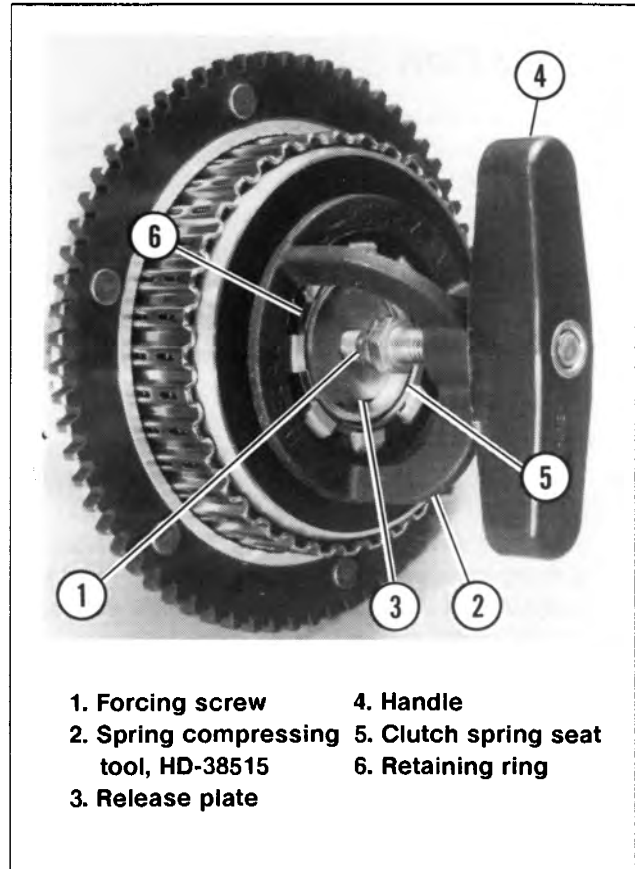
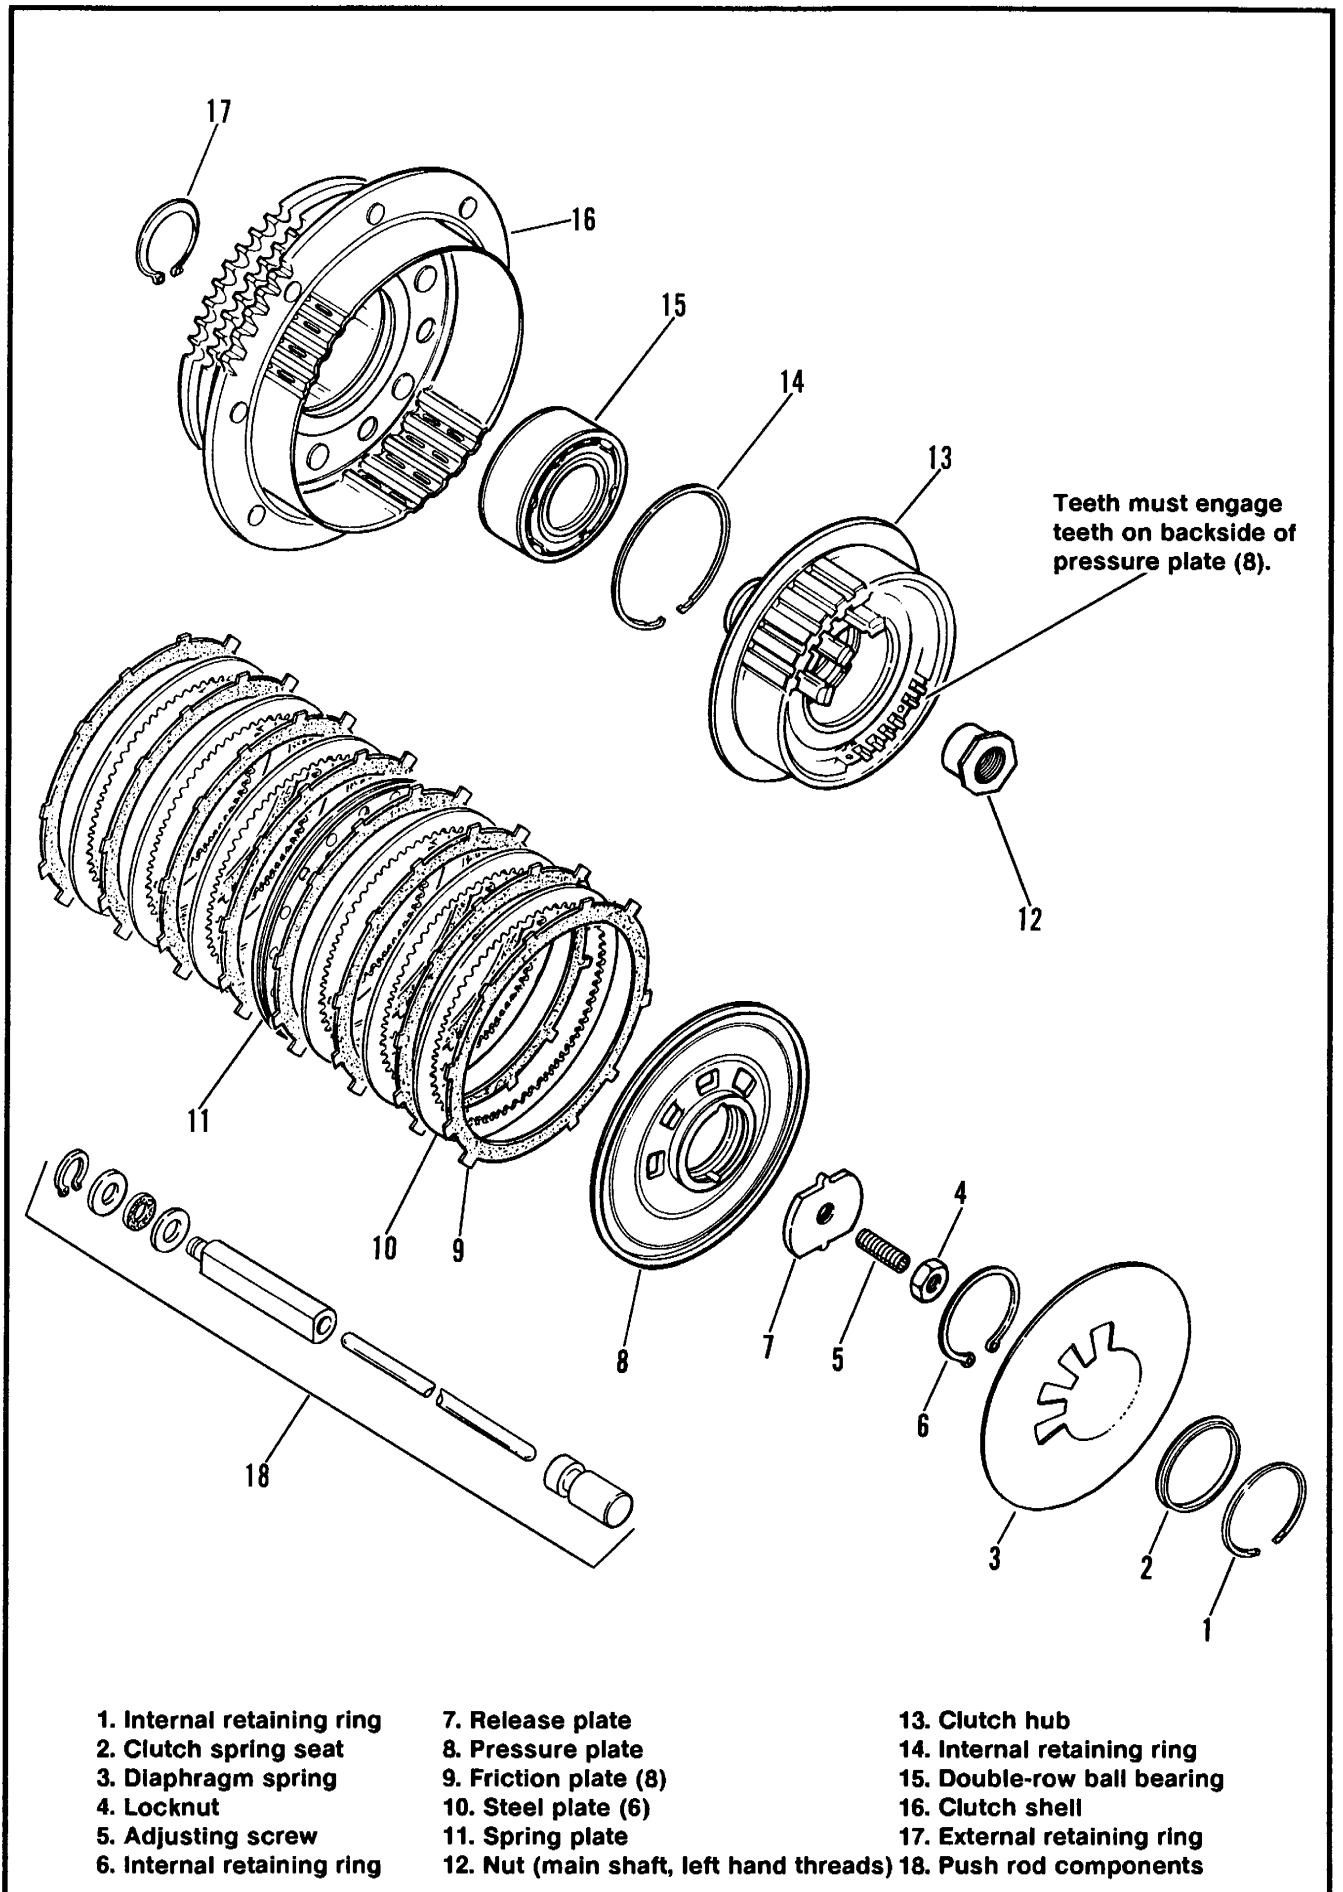

Figure 6-30. Compressing Clutch Diaphragm Spring
Figure 6-31. Clutch Assembly
5. See Figure 6-30. Thread forcing screw (1) of H-D SPRING COMPRESSING TOOL, Part No. HD-38515 (2), into the threaded hole in release plate (3) until hex on forcing screw contacts release plate.
6. Turn handle (4) clockwise to compress the diaphragm spring and move the clutch spring seat (5) inward enough to allow removing retaining ring (6). Remove retaining ring (6) with a retaining ring pliers or gently pry ring from its groove with a screwdriver.
7. See Figure 6-31. Remove SPRING COMPRESSING TOOL, Part No. HD-38515 with diaphragm spring (3) and pressure plate (8) attached.
See Figure 6-31. The friction plates (9) and the steel discs (10, 11) can now be changed or inspected without any further disassembly. See **CLEANING, INSPECTION AND REPAIR** for instructions on checking the plates. The **ASSEMBLY/INSTALLATION** procedure covers assembly and installation of the clutch.
CLEANING, INSPECTION AND REPAIR (Figure 6-31)
6. See Figure 6-31. Check the bearing (15) for smoothness by rotating the clutch shell while holding the clutch hub. If bearing is rough or binds it must be replaced.
7. Check the primary chain sprocket and the starter ring gear on the clutch shell (16). If either sprocket or ring gear are badly worn or damaged, replace the clutch shell.
9. Check the diaphragm spring (3) for cracks or bent tabs. Install a new spring if either condition exists.
ASSEMBLY (Figure 6-31)
4. See Figure 6-31. Place a friction plate (9) over hub (13) and into drum (16). Next place a steel plate (10) over hub (13) and into drum (16). Continue installing plates alternately starting and ending with a friction plate.
*Make certain the spring plate (11) is installed in the center of the stack as shown in Figure 6-31. If the **SPRING COMPRESSING TOOL, Part No. HD-38515, has not been removed continue at step 10. If the SPRING COMPRESSING TOOL was removed continue at step 6.***
5. Place pressure plate (8) on clutch hub (13) making sure the side of the pressure plate that has "teeth" is facing the hub.
6. Install diaphragm spring (3) on pressure plate (8) with "domed" or convex side of spring facing away from pressure plate. Center the diaphragm spring on the pressure plate; that is, the outer diameter of the diaphragm spring must be equidistant from the inside diameter of the pressure plate "spring-pocket."
7. Place clutch spring seat (2) on diaphragm spring (3) with lip of seat facing outward. Install release plate (7) and retaining ring (6) in pressure plate (8), if they were removed.
8. See Figure 6-30. Thread forcing screw (1) of H-D SPRING COMPRESSING TOOL, Part No. HD-38515 (2), into the threaded hole in release plate (3) until hex on forcing screw contacts release plate. Check that the outer diameter of the diaphragm spring is concentric with the inside diameter of the spring-pocket on the pressure plate. Center spring following instructions in step 6 above if required.
10. See Figure 6-30. Release compressing force on diaphragm spring by turning handle (4) counterclockwise while checking that clutch spring seat (5) lip is seated inside retaining ring (6).
12. See Figure 6-31. Install adjusting screw (5) and locknut (4) in release plate (7).